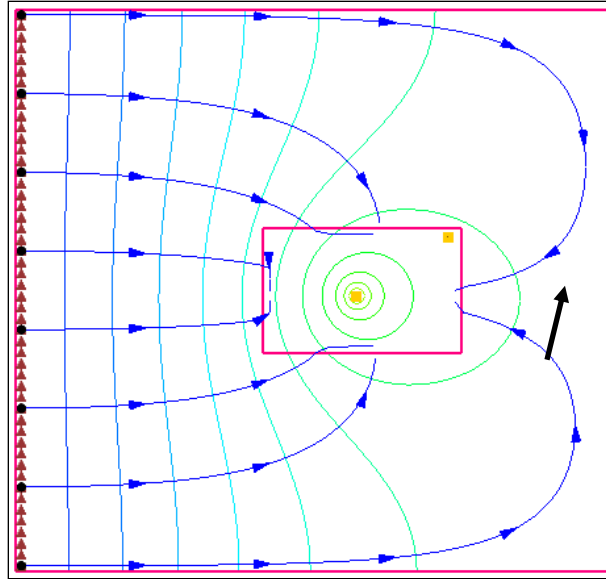

Figure 7 Creating a second well (indicated by arrow) in CHILD1
1. Using the **Select Cells**  tool, right-click somewhere in the upper right area of CHILD1 (the exact location is not important, see Figure 7 for approximate location) and select **Sources/Sinks...** to open the *MODFLOW Sources/Sinks – CHILD1* dialog.